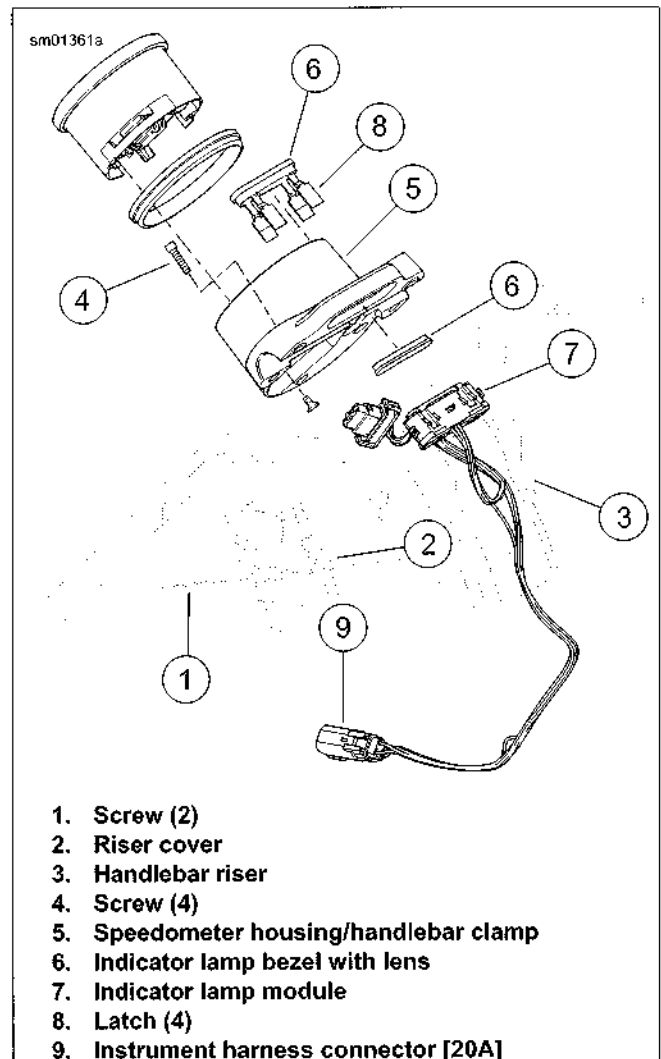

Figure 6-40. Indicator Lamps: XL 1200C/CP/CA Except w/Mini-Ape Handlebar
1. See Figure 6-40. Remove two screws (1) and riser cover (2) from behind handlebar riser (3).
2. Remove four screws (4) securing speedometer housing/handlebar clamp (5) to handlebar riser.
3. Carefully bend back four latches (8) on indicator lamp bezel (6). Remove indicator lamp module (7).
11. See Figure 6-40. Install indicator lamp module (7) into back of speedometer housing/handlebar clamp (5). Secure with four latches (8) on indicator lamp bezel (6).
12. Install speedometer housing/handlebar clamp onto handlebar riser (3). Secure with four screws (4).
15. Install riser cover (2) behind handlebar riser. Secure with two screws (1). Verify that handlebar control harnesses are not pinched between handlebar riser and riser cover. Tighten to 8-12 **in-lbs** (0.9-1.4 Nm).